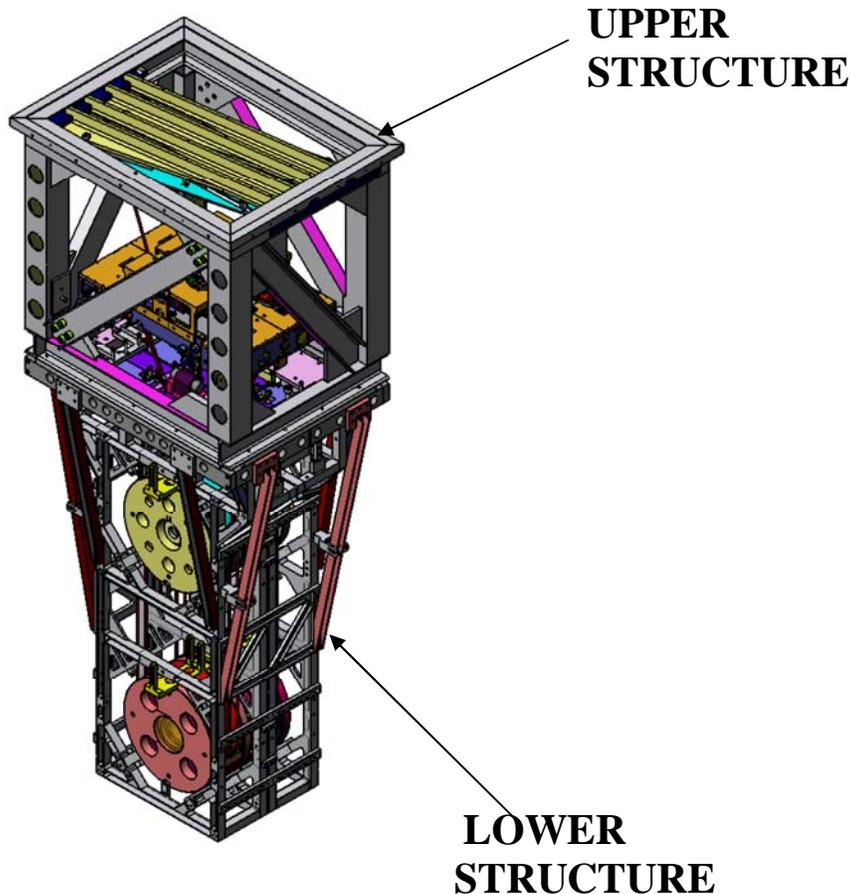

Fig 4
3. Remove lower structure assembly TD-1084-090 (fig. 4) per ETM Quad Assembly Procedure T060040-00 and place onto Quad translation/lift table per the Installation Tooling Demonstration video G070359-00.